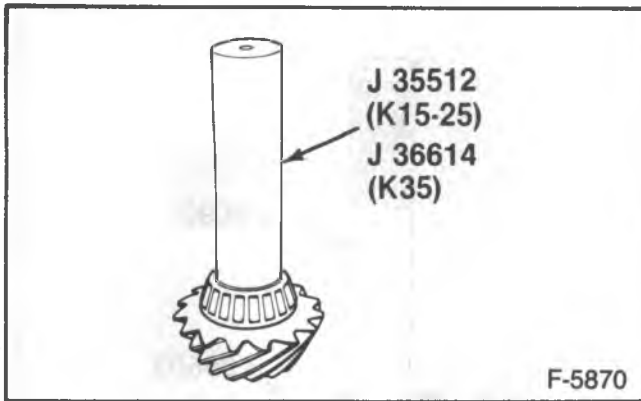
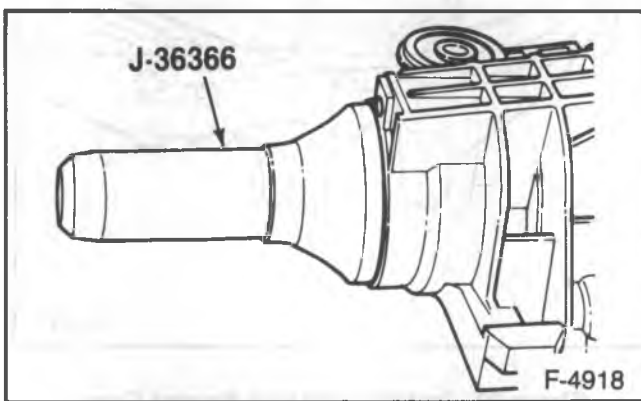

Figure 23—Installing the Pinion Bearing
Figure 24—Installing the Pinion Seal
1. Shim (38) to the pinion gear (37).
2. Bearing (39) onto the pinion gear using J 35512 (K15-25 models) or J 36614 (K35 models) (figure 23).
3. New spacer (40) onto the pinion gear.
4. Bearing (41) into the case.
5. Seal (42) into the case using J 36366 (figure 24).
7. Deflector (43), flange (44), washer (45) and nut (46).